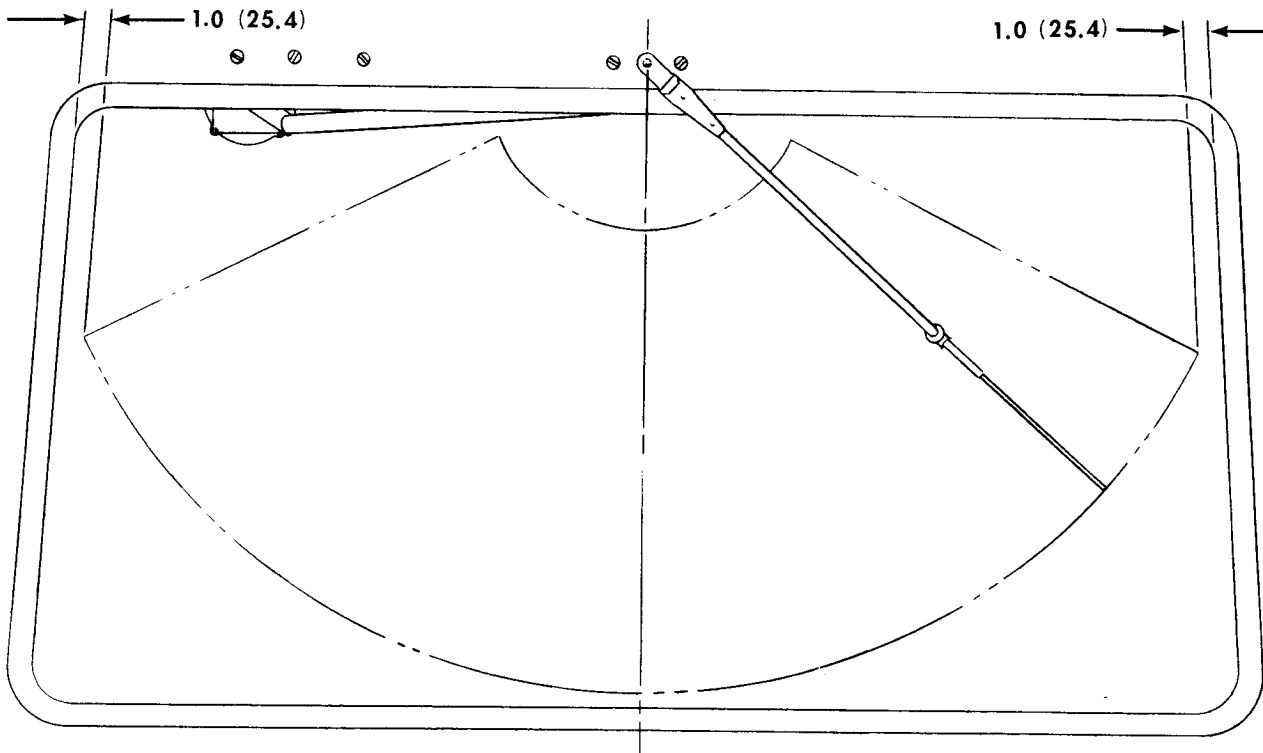

Figure 1.
3. Flush the windshield with water and operate the wiper motor at high speed. Check the point where the blade changes direction. At both ends of the wiper stroke, you must have a minimum clearance of 1.0 in (25,4 mm). See Figure 1.